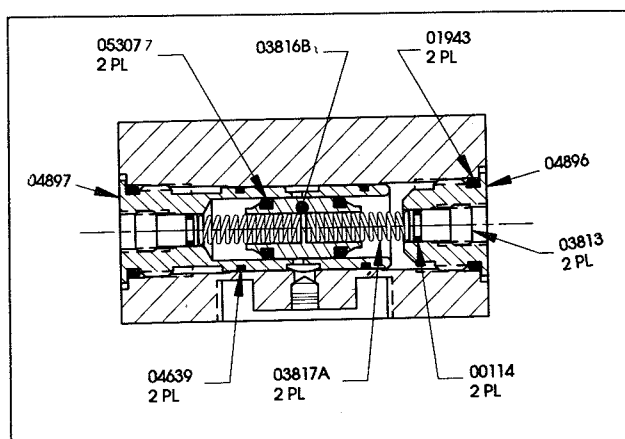

Figure 24
20.0 ALARM BYPASS ASSEMBLY - LEFT/RIGHT SIDE, REAR OF VALVE BLOCK (FIGURE 24)